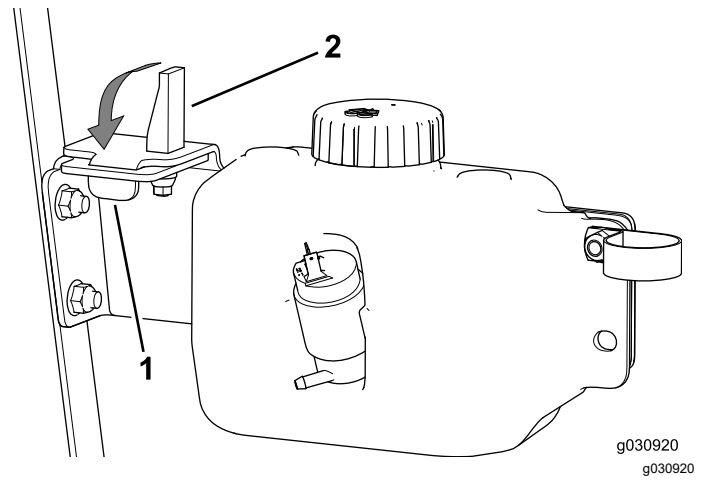

Figure 46
5. Insert the tab into the slot and the swell-latch bushing into the hole in the tank plate (Figure 46).
6. Flip the swell-latch lever down (Figure 46).